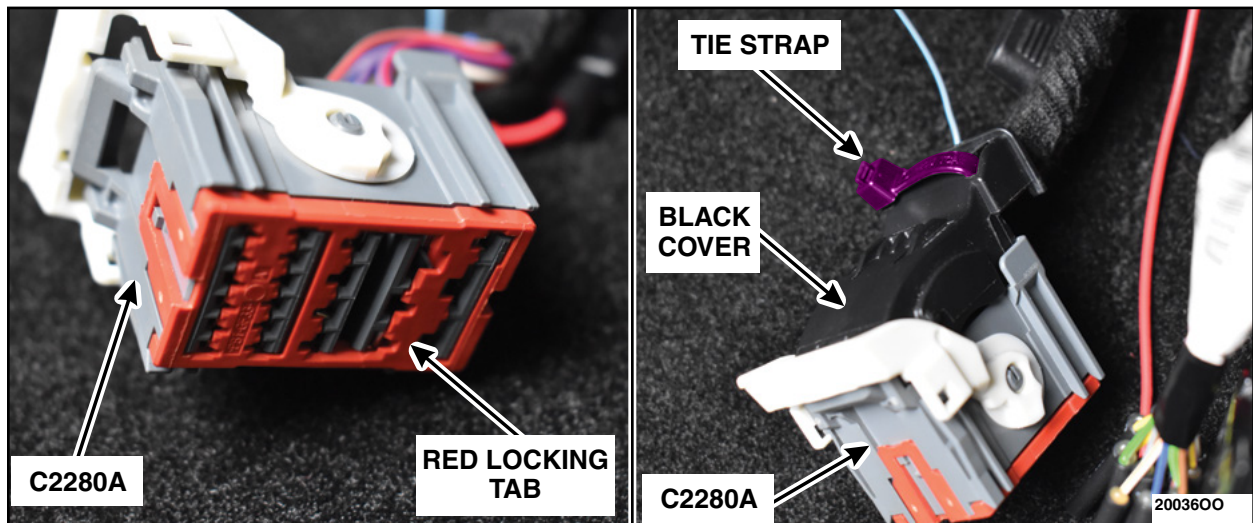

FIGURE 42
60. Install the red locking tab and the black cover. Secure using a tie strap and trim any excess. See Figure 42. Reconnect C2280A to the BCM.